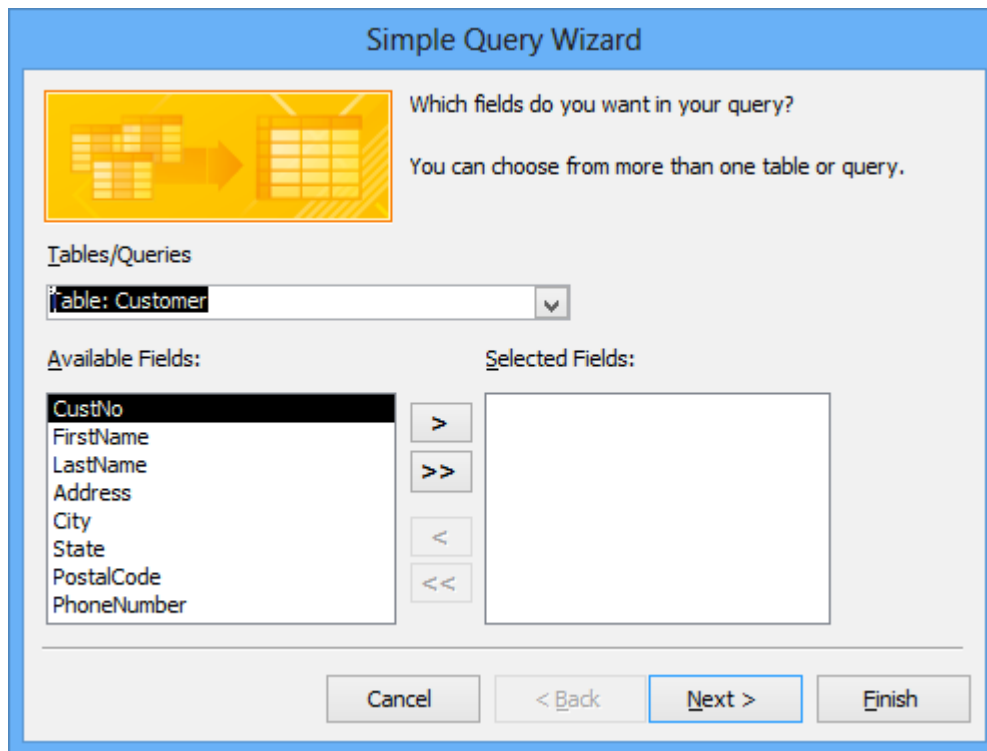

Figure 11: Initial Window of the Simple Query Wizard
6. Select a Table/Query: In the initial window (Figure 11), you first need to select from the Tables/Queries list. The Simple Query Wizard uses the selected table/query as a starting point in your new query. The default is always the previous query. Since you are basing this query on the *Customer* table as in the previous query, select *Customer*. Notice that when you make a selection, the list of available fields in the window below changes accordingly.